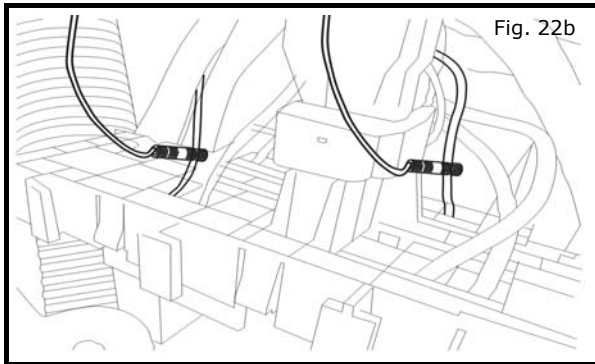
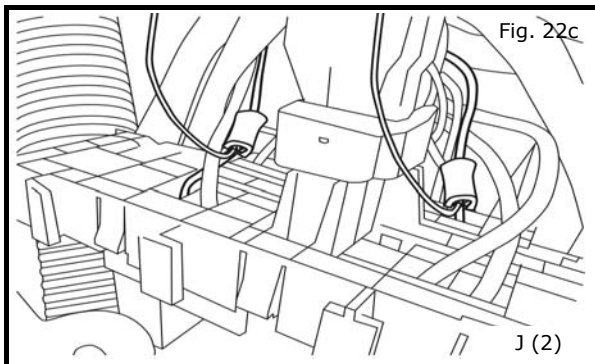

Fig. 22b
Fig. 22c
- b) Before moving on to Fig. 22c., installed Posi-Taps should look like Fig.22b.